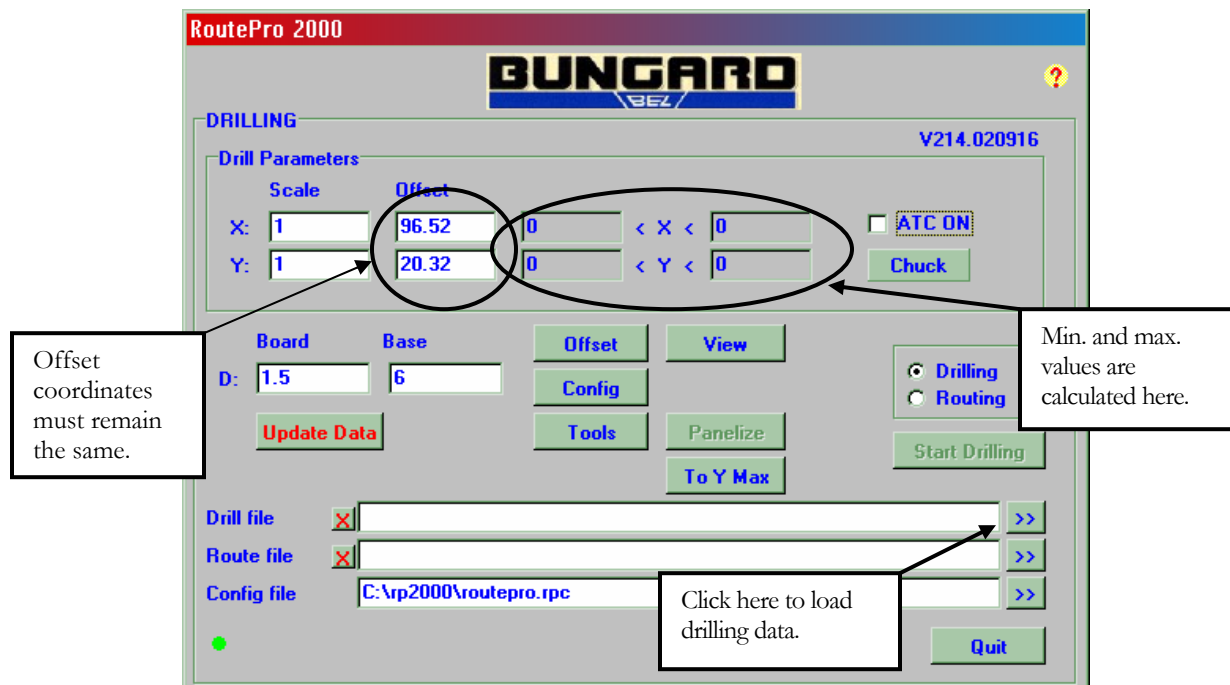

Figure 5 – Main drilling window
1. Load drilling data for fixing holes into RoutePro. See Figure 5.
9. Toward the top of the main RoutePro window, minimum and maximum values are listed for X and Y directions. The circuit board must be within these areas for proper milling. Using a metric ruler measure from the X and Y axis to the edges of the circuit board and verify that it is location within these limits. See Figure 5.
1. Load drilling data for circuit components. See Figure 5.
3. Verify that the offset coordinates in the main window match the coordinates used in the fixing hole drilling procedure. If they are not the same, change them manually by clicking the fields and entering the coordinates. See Figure 5.